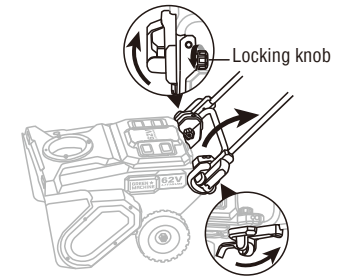

Fig. 2B
2. Open the quick-release levers on both sides of the unit and pivot the handle from the folding position to the working position. (Fig. 2B)
3. Close the quick-release levers to lock the lower handle in position and tighten the locking knobs on both sides to secure the levers. (Fig. 2B)